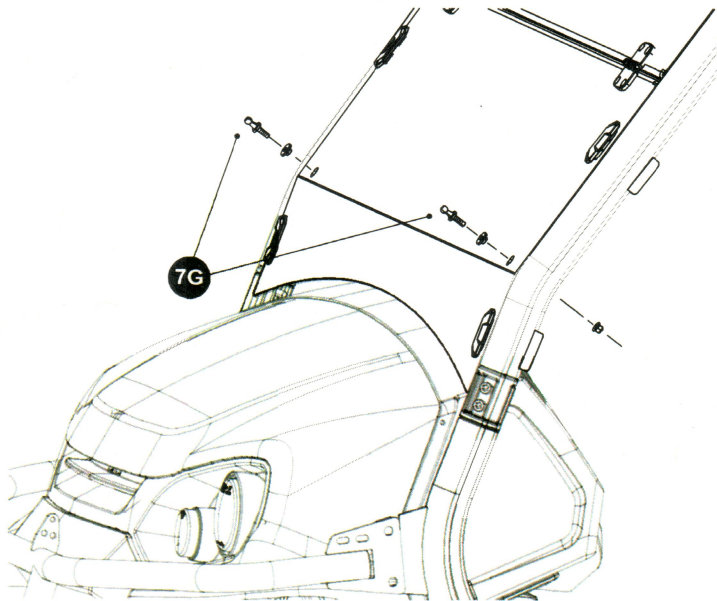

Fig. 7
1. Install bottom pin assemblies (7G) to bottom portion of windshield, as shown in Fig. 7. Hand tighten.